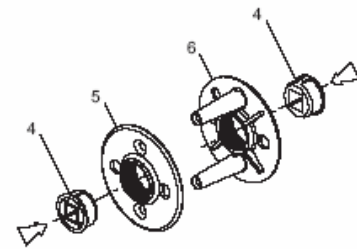

Figure 2
- 3 - Insert nylon self alignment plugs [4] into both plates of mounting bracket [5&6], as shown on figure 2.